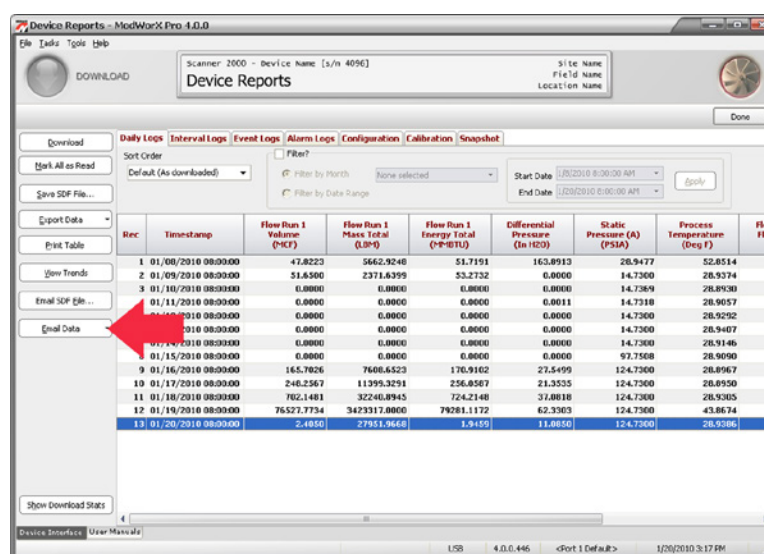

Figure 14.27
- Click the **Email Data** button at the left of the screen (Figure 14.27) and select the export format desired (.XLS, .CSV, .PDF, .RTF, or html). Please note that calibration data can be exported for email in any format except .CSV.